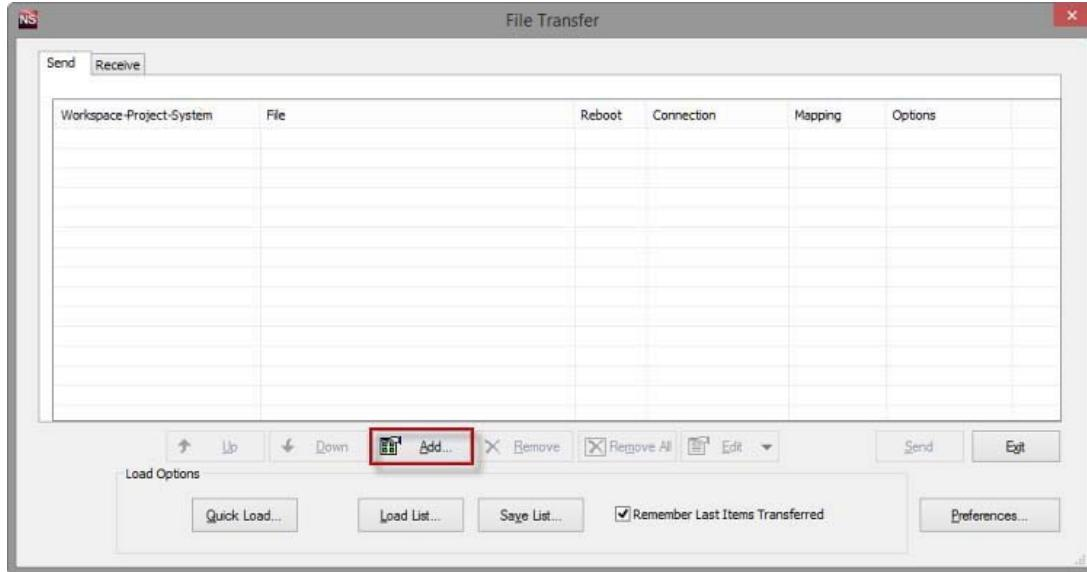

Fig. 164 NetLinx Studio 4 - File Transfer dialog
1. In NetLinx Studio 4, select Tools -> File Transfer to open the *File Transfer* dialog - *Send* tab (FIG. 164):